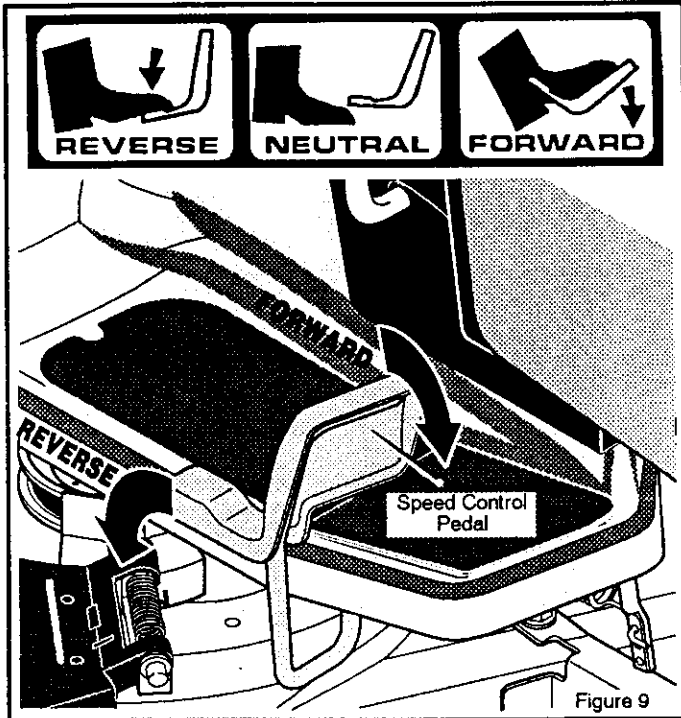

Figure 9
4. Slowly push the speed control pedal forward to the desired speed (Figure 9).